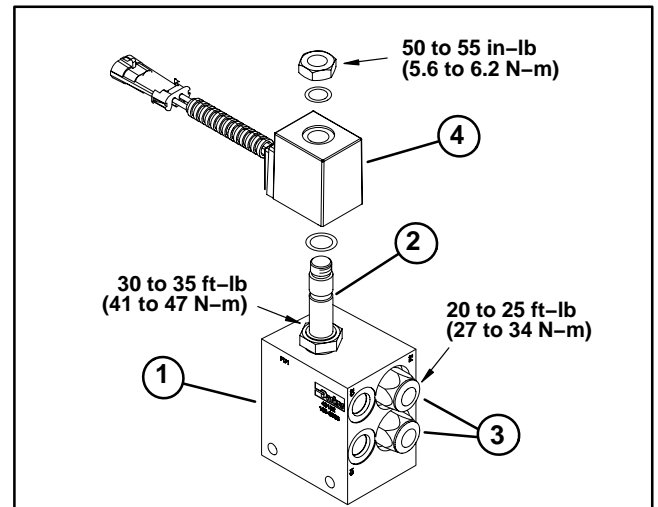

Figure 94
The flow divider on early production machines consists of a three (3) port manifold and a flow divider cartridge. The flow divider on later production machines includes a solenoid cartridge valve and two (2) flow regulator cartridges (Fig. 94).